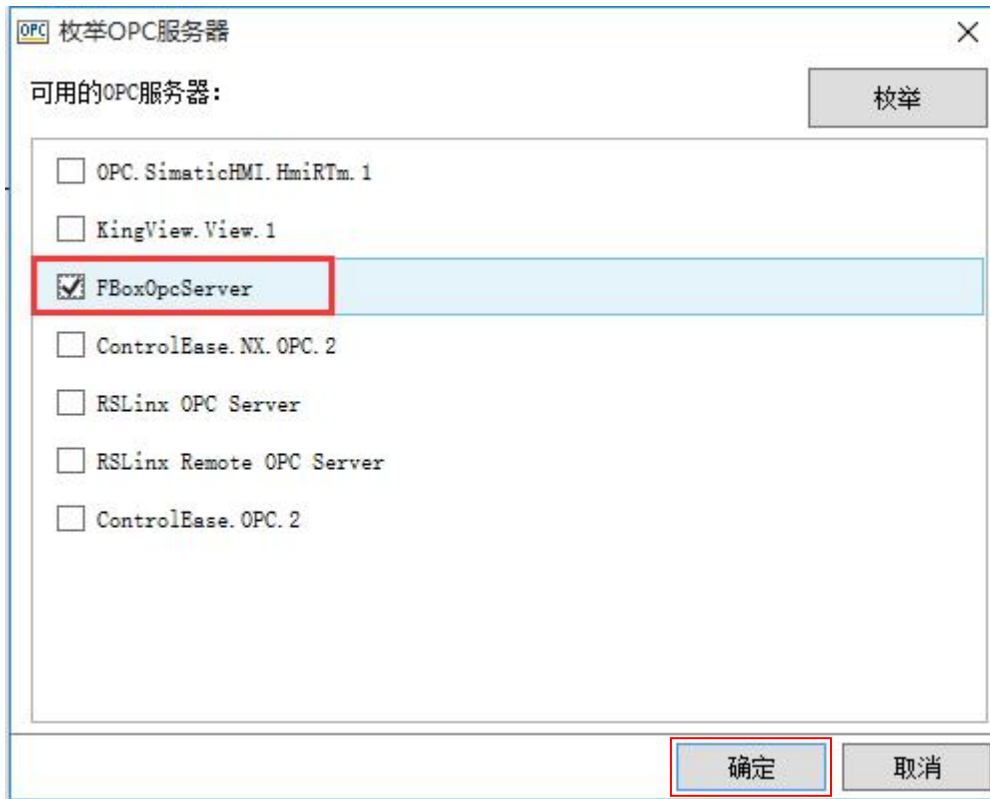

Fig. 4.10-5 Add "FBoxOpcServer" driver
(3) Click the "Enumeration" button and check the "FBoxOpcServer" option in the available OPC server list, as shown in Fig 4.10-5. Then click the "OK" button to complete adding "FBoxOpcServer" driver.